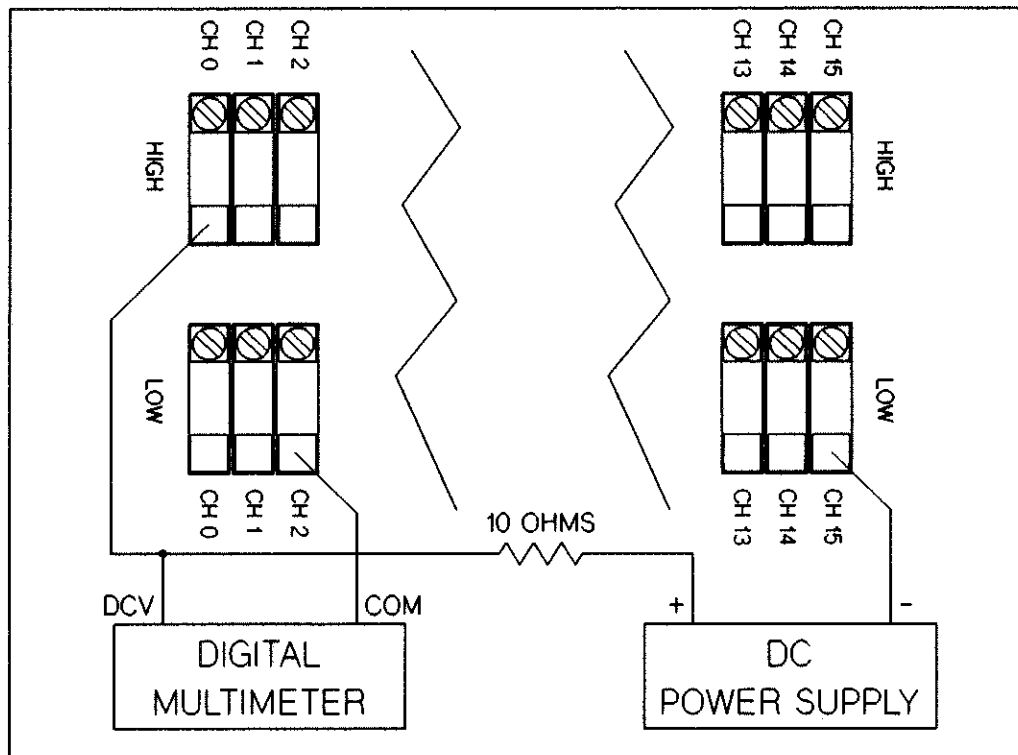

Figure 13-8 Even Channel Sink Current Test
8. Connect the COM (LO) input of the multimeter to the shorted LOW connections on the test fixture. the connections are shown in Figure 13-8.